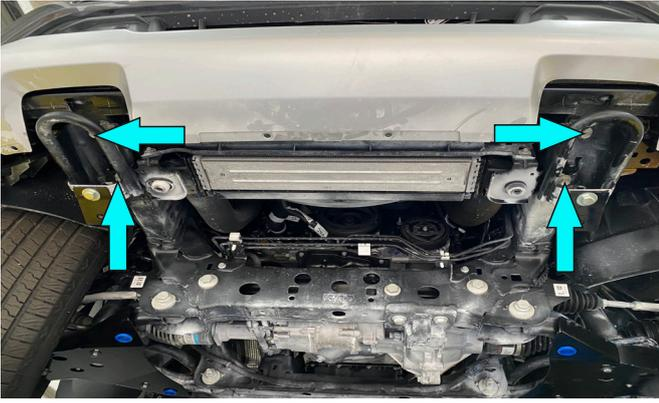

Fig.19
19. Fix intercooler using transmission jack, then unscrew OE bolts and remove OE recovery points (fig.19).